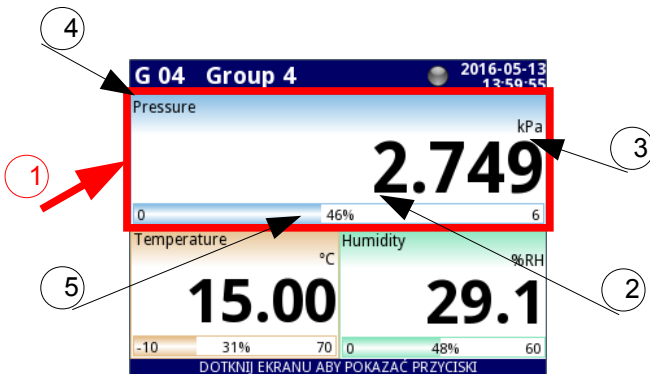

Fig. 6.5. View of the **Data panel**
In all data panels (a sample of a data panel is shown inside the frame marked (1) in Fig. 6.5) the following information is available:
- value of the logical channel (denoted by (2) in Fig. 6.5),
- data unit (denoted by (3)),
- channel's name (denoted by (4)),
- on some modes there is also a visible percentage indicator of the value in relation to its full scale (denoted by (5)),